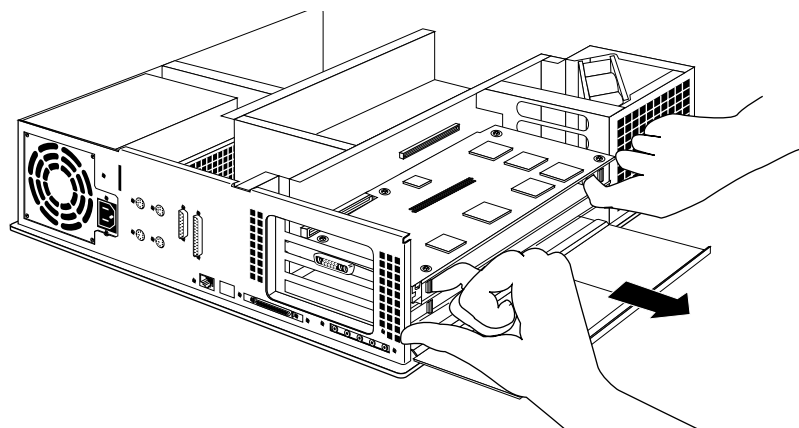

Figure 2-23 Removing the Board Set
6. Pull the board set out of the workstation, as shown in Figure 2-23.